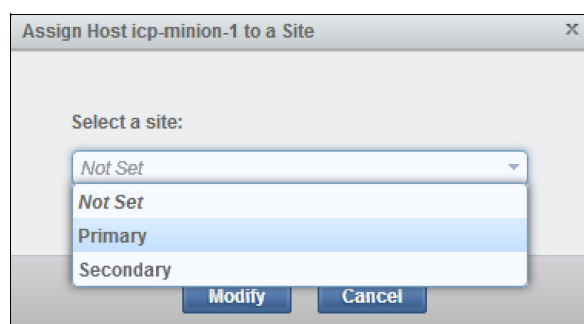

Figure 4-38 Options for assigning host to a site
5. Figure 4-38 shows the site options provided to assign to an individual host. Each host should be assigned to the site corresponding to their physical location.